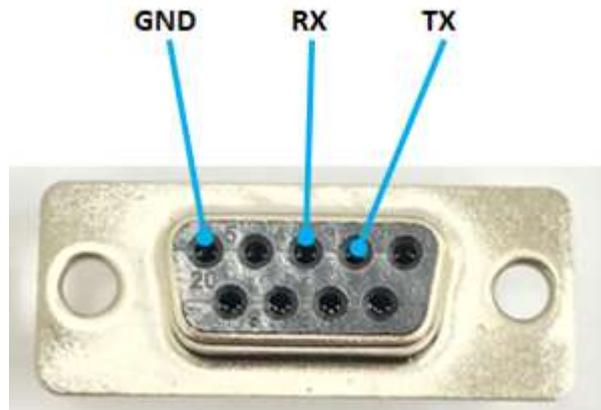

Figure 11. RS232 female DB-9 connector pin layout.
3. The pin layout of the RS232 port with a DB-9 female connector is shown in Figure 11.